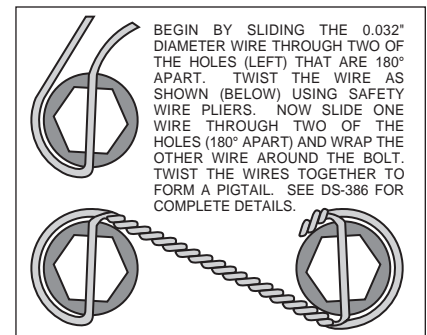

Figure 4. Safety Wire Diagram
- With the larger I.D. side of the rotor (4) facing away from the hat (3), bolt rotor (4) to hat (3) through the backside of the rotor using washers (5) and bolts (6). Using an alternating sequence, apply red *Loctite*® 271 to the threads and torque bolts to 155 **in-lb**. For an added measure of security, the bolts may be safety wired using standard 0.032 inch diameter stainless steel safety wire as shown in Figure 4. Please refer to Wilwood's data sheet DS-386 (available at www.wilwood.com/Pdf/DataSheets/ds386.pdf) for complete safety wire installation instructions.